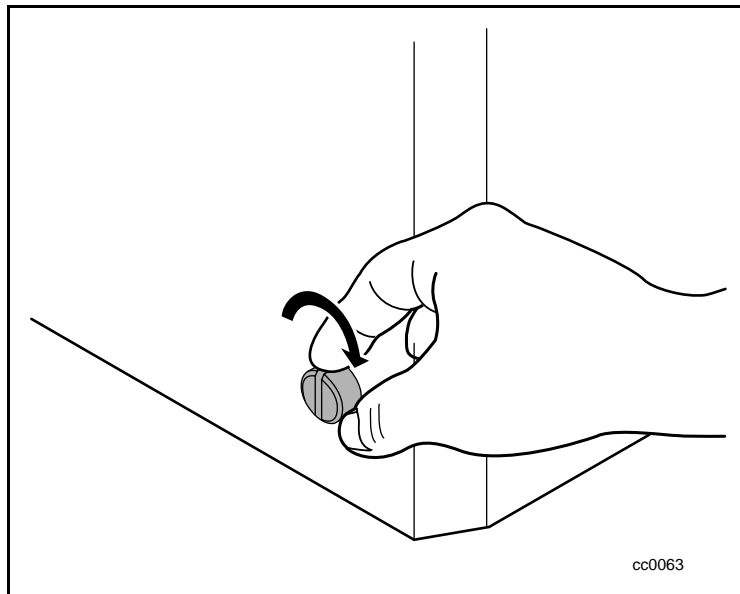

Figure C-3. Locking the lockdown mechanism
5. Push in on the spring-loaded lockdown screw at the back of the unit and turn it clockwise (Figure C-3). This secures the shuttle to a bracket and locks it in place.